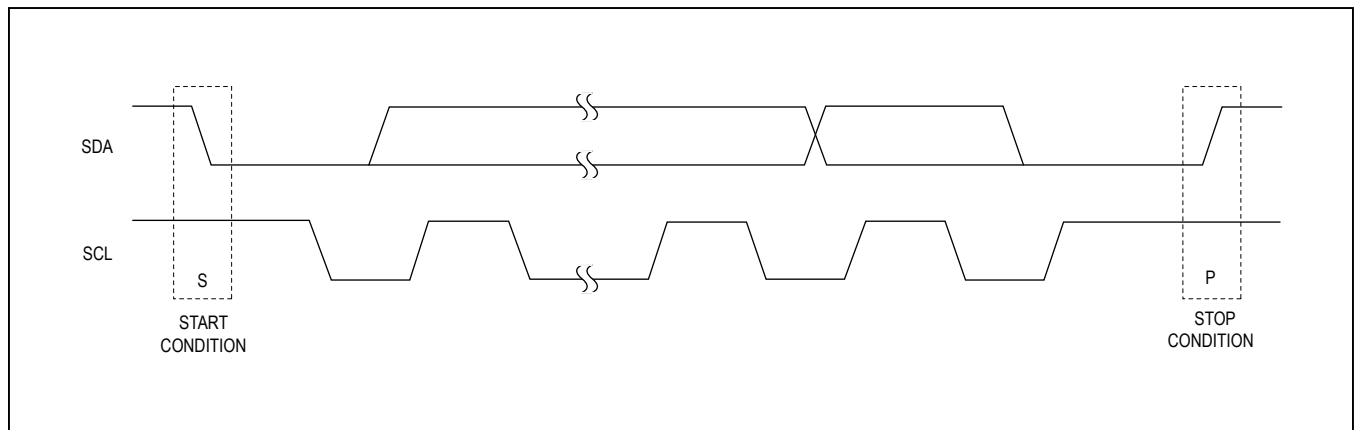

Figure 27. START and STOP Conditions
Both SCL and SDA remain high when the interface is not busy. A master signals the beginning of a transmission with a START (S) condition by transitioning SDA from high to low while SCL is high (Figure 27). When the master has finished communicating with the slave, it issues a STOP (P) condition by transitioning SDA from low to high while SCL is high. The bus is then free for another transmission.